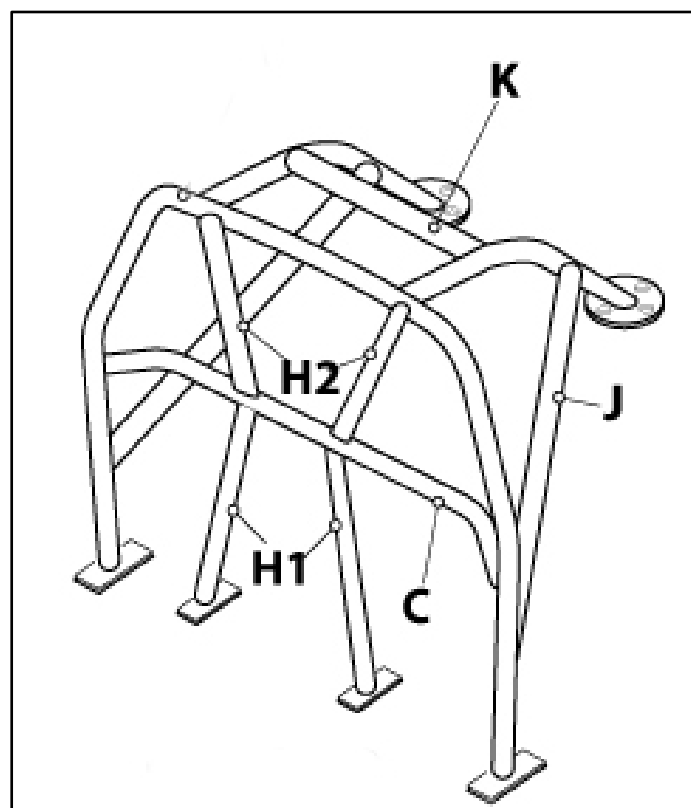

Figure 8 (above): Component K is required if Rear Stays are bent.
- 7.4 A back-set Taxi Bar may be fitted to a Single Rollover Hoop, as per Figure 8, component C.
- A back-set Taxi Bar must be fitted with Taxi Bar Upper Supports (Figure 8, components H2). It is recommended to also fit Taxi Bar Lower Supports (Figure 8, components H1) to a back-set Taxi Bar.
8.3 A back-set Taxi Bar may be fitted to a Four Point Rollage, as per Figure 8, component C.
A back-set Taxi Bar must be fitted with Taxi Bar Upper Supports (Figure 8, components H2). It is recommended to also fit Taxi Bar Lower Supports (Figure 8, components H1) to a back-set Taxi Bar.
9.3 A back-set Taxi Bar may be fitted to a Six Point Rollage, as per Figure 8, component C.
- 11.2 If Rear Stays are bent, a Stiffening Tube (Figure 8 component K) must be fitted in between the Rear Stays within 100mm (4") of the bend in the Rear Stay.
- 12.12 If the Taxi Bar is back-set (Figure 8, component C) two Taxi Bar Upper Supports fixed to the horizontal section of the Main Hoop and the Taxi Bar are required (Figure 8, components H2).
- 12.13 It is also recommended to use Taxi Bar Lower Supports that are fixed to the Taxi Bar and the floorplan or transmission tunnel (Figure 8, components H1).
- 16.2 Additional tubing is such as Figure 8, component J.